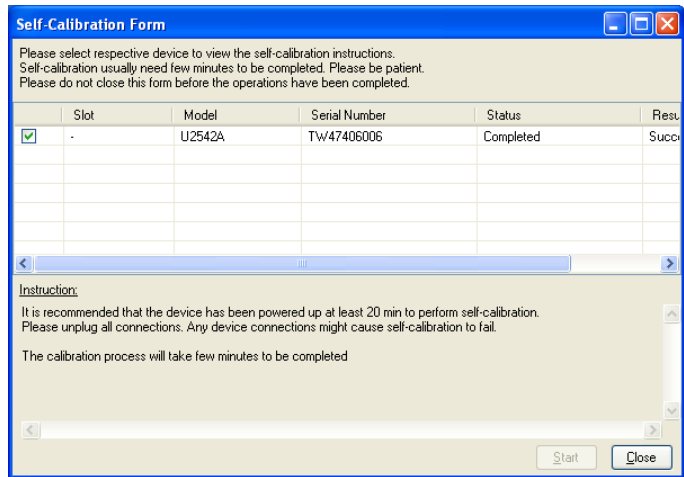

Figure 2-9 Self Calibration Form dialog box in Agilent Measurement Manager showing the status and result of the self-calibration process
- 6 The calibration process will take a few minutes to be completed. Once done, the status and results of the process will be displayed as shown in Figure 2-9.